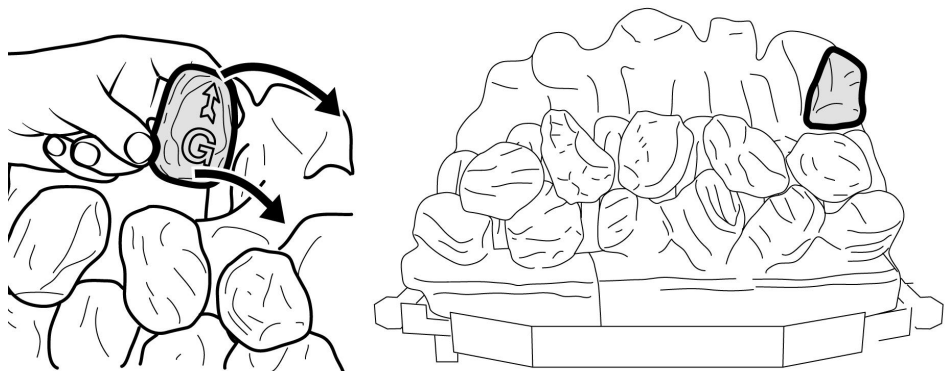

Figure 11. Third row "Coal G"
10. Hold coal 'G' upright with the arrow pointing to the top. Locate coal 'G' as shown in figure 11.